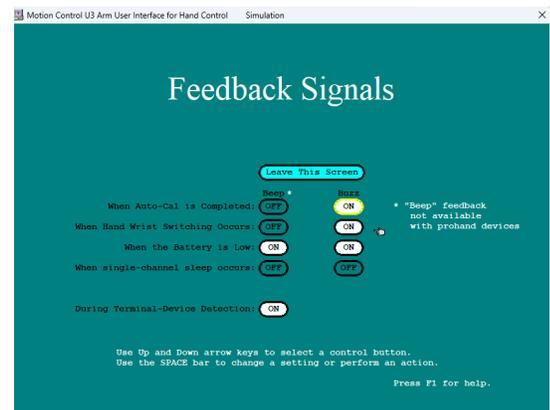

Figure 23, Feedback Signals Settings.
- **Hand Sleep Delay:** sets the length of time the Hand must stop for the Hand to “sleep” or for the Power to turn off. A feedback “buzz” may also be enabled to indicate when Sleep occurs (see the User Feedback screen Fig. 23).